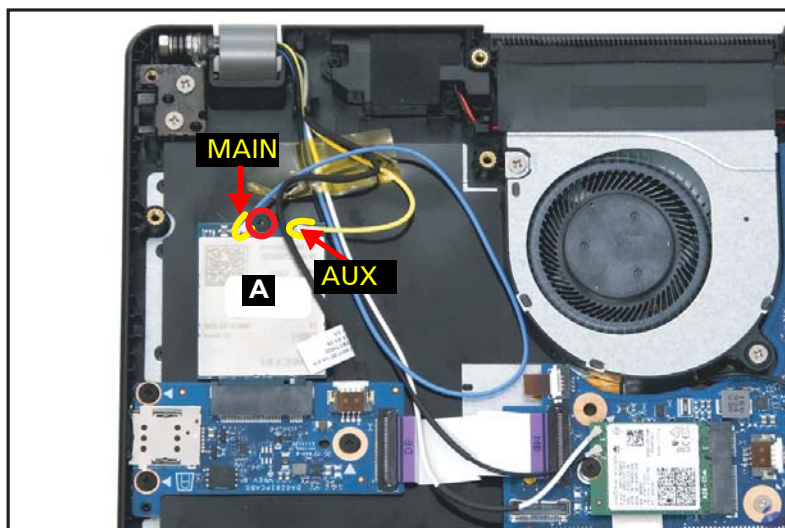

Figure 1-20. LTE Module Removal
1. Find the LTE module (A) on the top assembly (Figure 1-20).
2. Disconnect the MAIN antenna cable (blue-color) from the LTE MAIN pin (Figure 1-20).
3. Disconnect the AUX antenna cable (yellow-color) from the LTE AUX pin (Figure 1-20).
4. Remove one (1) screw securing the LTE module in place (Figure 1-20).